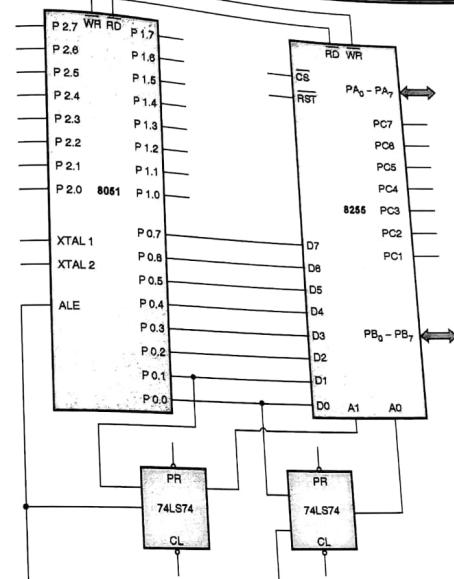

Fig. 9.12.1 : I/O expansion using 8255
- Fig. 9.12.1 shows the expanded I/O ports using 8255. Data bus of 8255 is connected to Port 0.